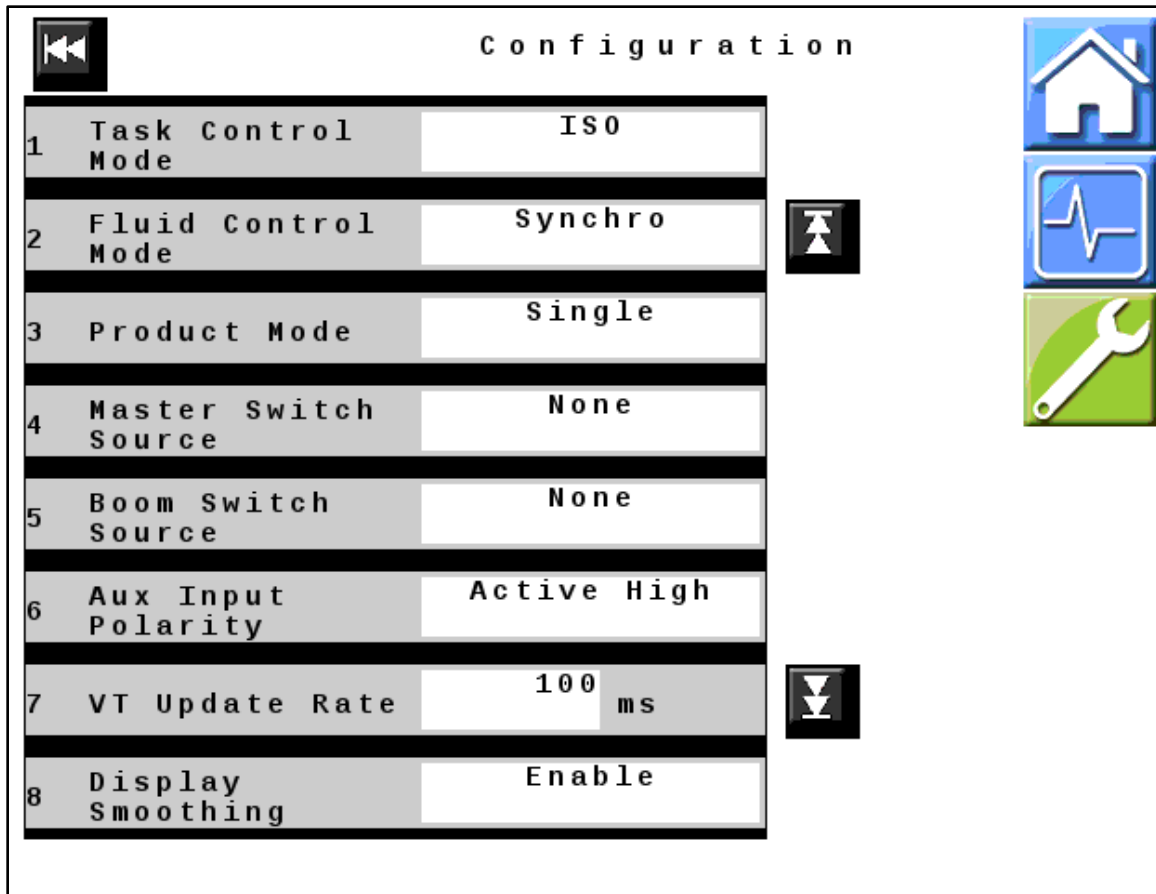

Figure 6 — Configurations Page 1
Note: ANYTIME you change settings, you MUST tap the **Settings** icon  to go into the **Settings** menu and select **Initial Setup > Configurations > Software Restart** to save settings. If the unit is turned off or loses battery power before this is done, the new settings will not be saved. Refer to *Figure 6* for the location of this function.
12. *Figure 6*: Verify that all values displayed on your unit match those shown here. Change values if necessary.